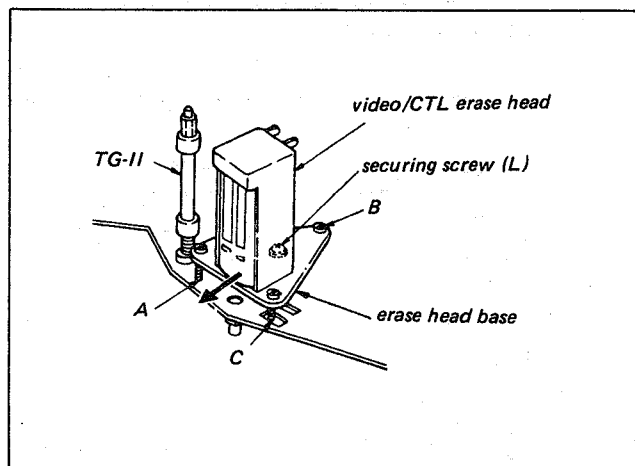

Fig. 3-6. Replacement of full erase head
1. Remove the securing screw (L) from the erase head base and remove the erase head ass'y as shown in Fig. 3-6.
3. Replace the erase head and press the erase head in the direction shown by the arrow in Fig. 3-6. And tighten the two fixing screws.